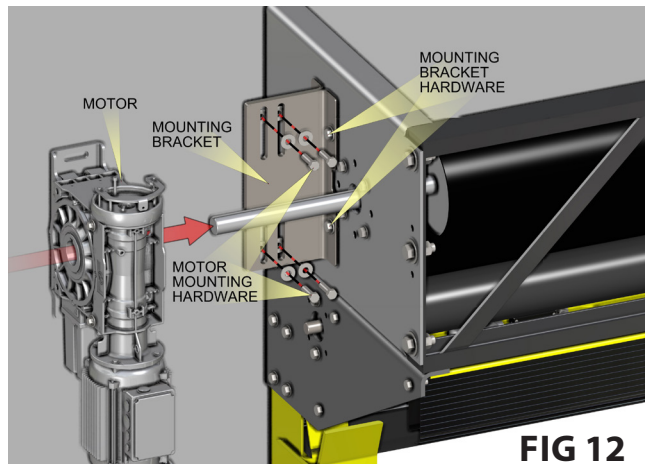

FIG 12
- Remove pre-installed motor mounting hardware from the mounting bracket, as shown in **FIG 12**. Loosen the mounting bracket hardware so the bracket can slide back and forth as needed. See **FIG 12**.
- Slide motor onto shaft, as shown in **FIG 12**.